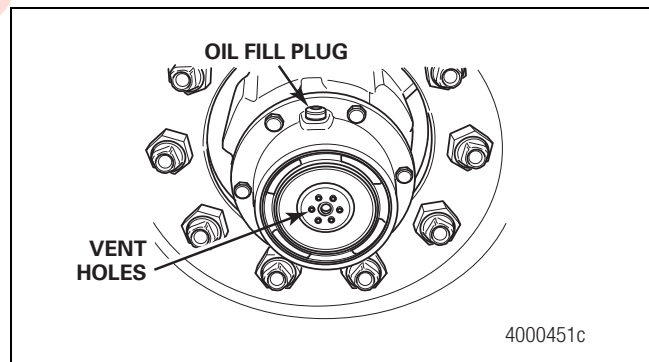
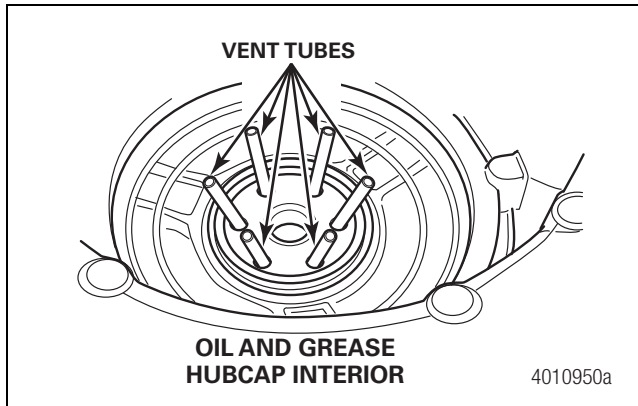

Figure 2.42
Figure 2.43
Oil hubcaps typically feature a side-mounted oil fill plug and vent hole extensions located in the hubcap interior to keep oil from leaking from the hubcap vent holes. Figure 2.42 and Figure 2.43. Grease hubcaps also have six vent holes with vent extensions, however, they typically don't have a side-mounted fill plug. Figure 2.43.
1. Follow the manufacturer's instructions to install the hubcap. For oil-lubricated wheel ends, locate the oil fill plug on the top. Verify that the vent holes in a greased wheel end are not blocked with grease. Blocked vent tube holes will prevent system air from venting from the wheel end. Figure 2.42.